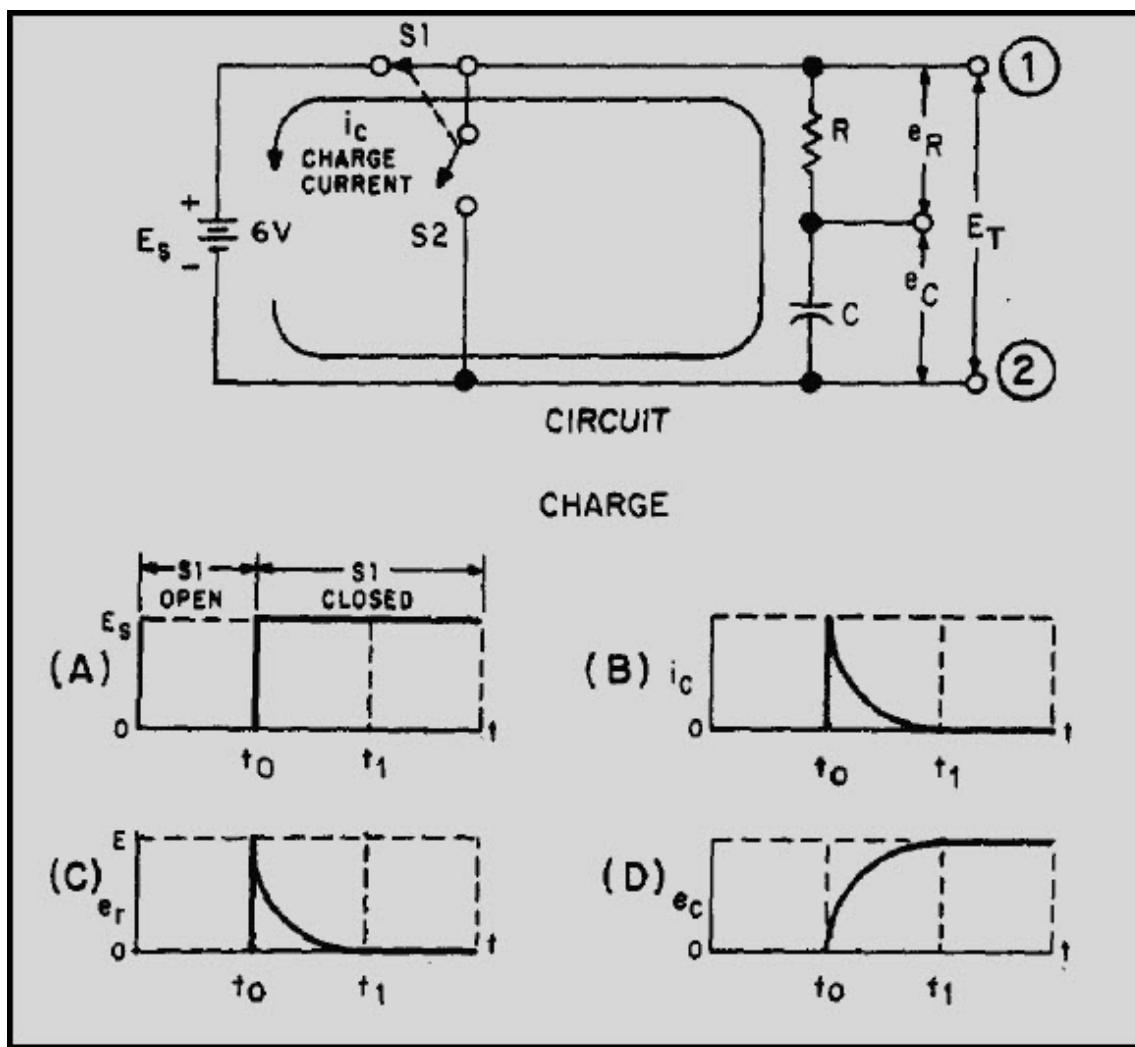
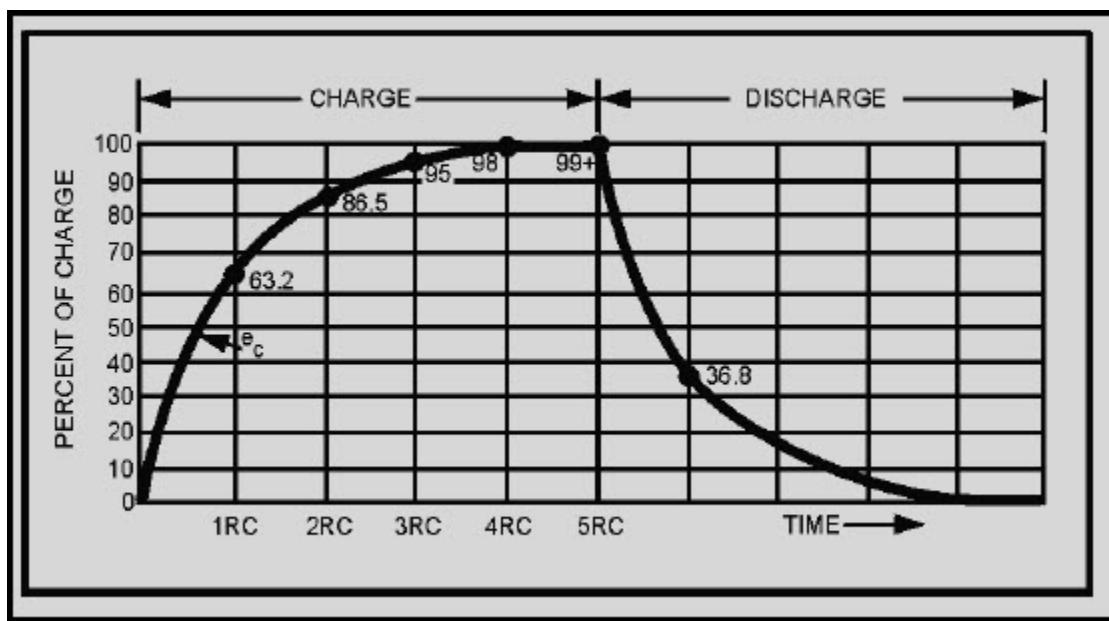

Figure 3-9 Charge of an RC series circuit
Figure 3-11 RC time constant
A voltage divider containing resistance and capacitance is connected in a circuit by means of a switch, as shown at the top of figure 3-9. Such a series arrangement is called an RC series circuit.
When switch S1 of the circuit in figure 3-9 is closed at  $t_0$ , the source voltage ( $E_S$ ) is instantly felt across the entire circuit. Graph (A) of the figure shows an instantaneous rise at time  $t_0$  from zero to source voltage ( $E_S = 6$  volts). The total voltage can be measured across the circuit between points 1 and 2. Now look at graph (B) which represents the charging current in the capacitor ( $i_c$ ). At time  $t_0$ , charging current is MAXIMUM. As time elapses toward time  $t_1$ , there is a continuous decrease in current flowing into the capacitor. The decreasing flow is caused by the voltage buildup across the capacitor. At time  $t_1$ , current flowing in the capacitor stops. At this time, the capacitor has reached full charge and has stored maximum energy in its electrostatic field. Graph (C) represents the voltage drop ( $e$ ) across the resistor ( $R$ ). The value of  $e_r$  is determined by the amount of current flowing through the resistor on its way to the capacitor. At time  $t_0$  the current flowing to the capacitor is maximum. Thus, the voltage drop across the resistor is maximum ( $E = IR$ ). As time progresses toward time  $t_1$ , the current flowing to the capacitor steadily decreases and causes the voltage developed across the resistor ( $R$ ) to steadily decrease. When time  $t_1$  is reached, current flowing to the capacitor is stopped and the voltage developed across the resistor has decreased to zero.
The time required to charge a capacitor to 63 percent (actually 63.2 percent) of full charge or to discharge it to 37 percent (actually 36.8 percent) of its initial voltage is known as the TIME CONSTANT (TC) of the circuit. The charge and discharge curves of a capacitor are shown in figure 3-11. Note that the charge curve is like the curve in figure 3-9, graph (D), and the discharge curve like the curve in figure 3-9, graph (B).
The graphs shown in figure 3-11 and 3-12 are not entirely complete. That is, the charge or discharge (or the growth or decay) is not quite complete in 5 RC or 5 L/R time constants. However, when the values reach 0.99 of the maximum (corresponding to 5 RC or 5 L/R), the graphs may be considered accurate enough for all practical purposes.